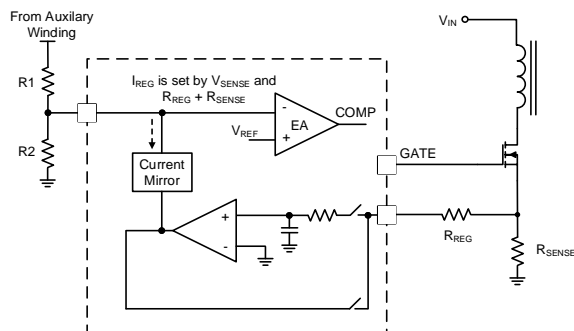

Figure 4: Output Voltage Compensation
In PSR mode, the auxiliary winding waveform reflects the secondary-side winding voltage, but the output voltage differs from the winding output voltage due to the output diode voltage drop and the power winding resistance (see Figure 4). The dropout voltage varies as the conduction current changes. As the current varies, the resistance from the SENSE pin to GND sets the compensation gain of the dropout voltage. The current-sense (CS) signal is filtered internally, and controls the current sinking from the FB pin based on the average voltage from the SENSE pin. There are three types of current gain from the average V_{SENSE} to the FB pin based on the average V_{SENSE} to the FB pin (see Table 2 for SENSE programming options). The FB pin's high-side (HS) feedback resistor to compensate for V_{OUT} .
The MP6005 has a SYNC driver pin that controls the second switch. If SYNC is high, the second switch turns off. If SYNC is low, the second switch turns on. Figure 4 shows the phase and dead time relationships between the GATE and SYNC pins.